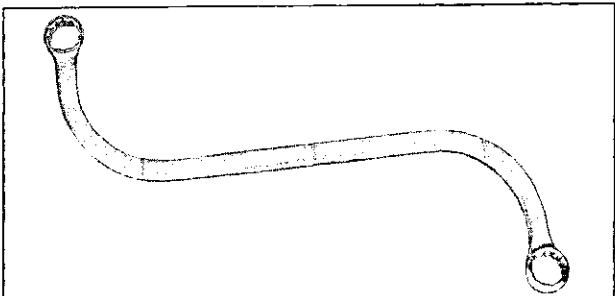

Fig. 6-57—Front Door Hinge Tool J-22729 (9/16" Box) - "B, C & E" Styles
- On "B, C & E" body styles, use tool J 22729 - 9/16" wrench (Fig. 6-57).